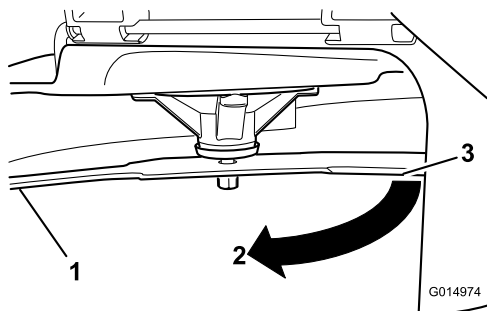

Figure 76
4. Rotate the same blade 180 degrees so that the opposing cutting edge is now in the same position (Figure 76).